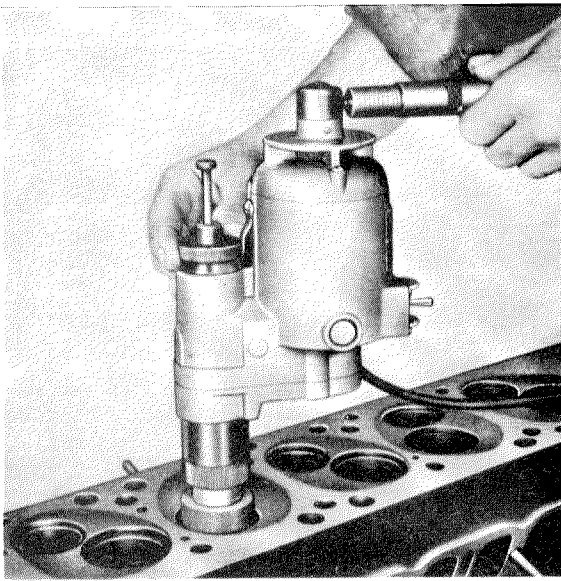

Fig. 01 — 5/17
0.1 mm in width or should be made at an angle of 120° or 150° (see Figs. 01 — 5/12 and 01 — 5/13).
c) **Machining of the valve seat with an eccentric valve seat grinder (Fig. 01 — 5/17).**